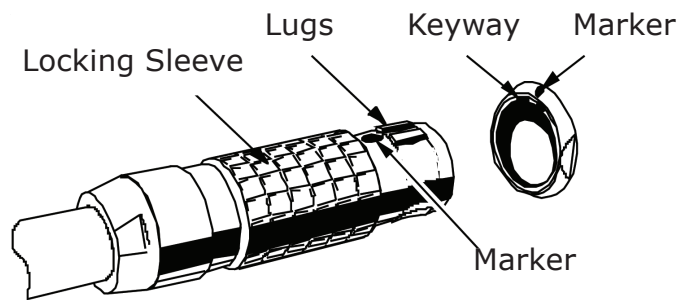

Fig. 8 Connecting the plug to the socket
- 1) Refer to Fig. 8. Align the red marker near the lugs of the pre-wired plug with the red marker above the keyway in the socket on the thermometer.